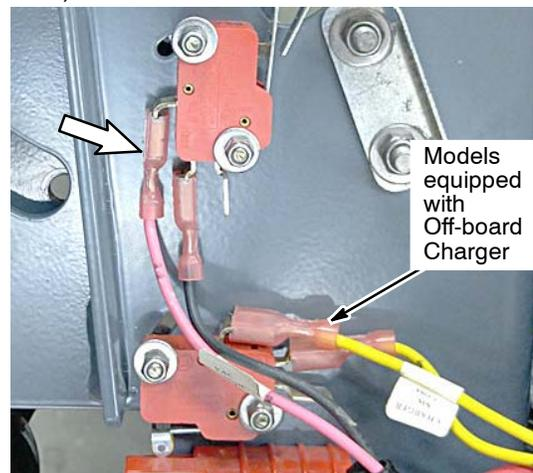

FIG. 7
7. Reconnect wires to squeegee lift lever assembly (FIG. 7).